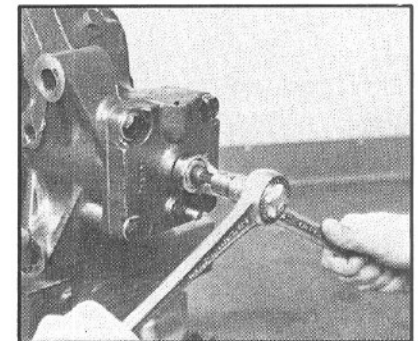

Figure 48
14. Loosen the worm shaft preload adjusting screw jam nut (38) with a 15/16 inch socket, and loosen the worm shaft preload adjusting screw (39) about two turns with a 5/16 inch allen socket or screw driver (FIG. 48). If your gear is equipped with poppets, loosen the poppet adjusting screw jam nut (3) and the poppet adjusting screw (40) about two turns.